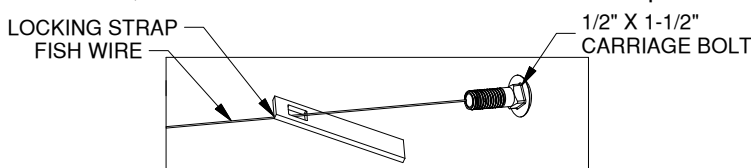

Figure B2
3. **Prepare hardware.** Thread the locking strap on the fish wire and attach the coil end of the fish wire to the carriage bolt, as shown in Figure B2. To keep the hardware from getting hung up inside the frame, the locking strap and the bolt need to go through the frame separated, as shown, and not with the bolt through the square hole in the strap.